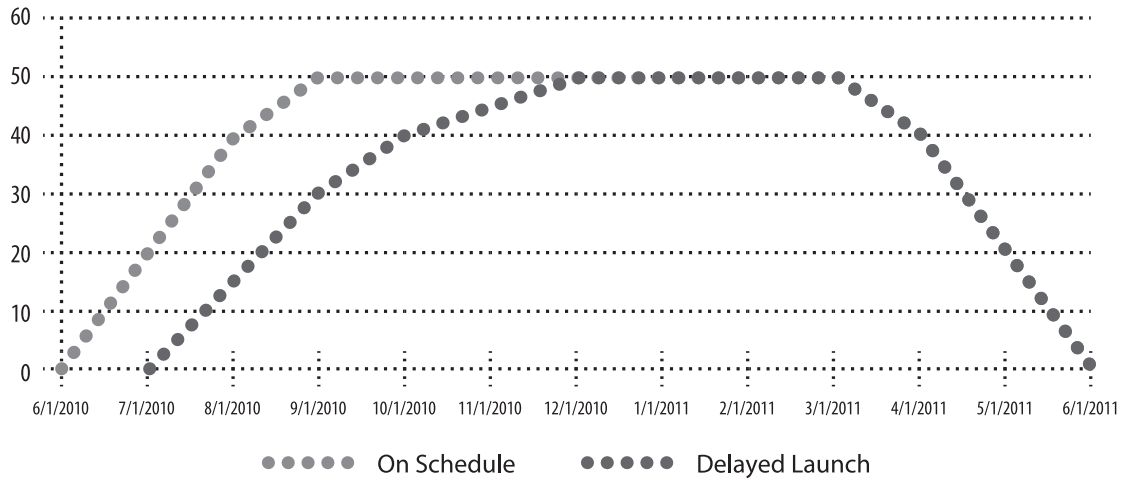

Figure 2
In Figure 2, we see the effects of delaying the launch. Since the launch date is internally driven, it is possible to move it out (one month in this example). However, unlike what many may think, the end-of-life date doesn't move out with it. Since the end of life is externally driven, the date stays the same. In this example, the difference in the areas under the two curves (the red area) is lost sales.
2. They miss the launch date and end up in the scenario depicted in Figure 2.